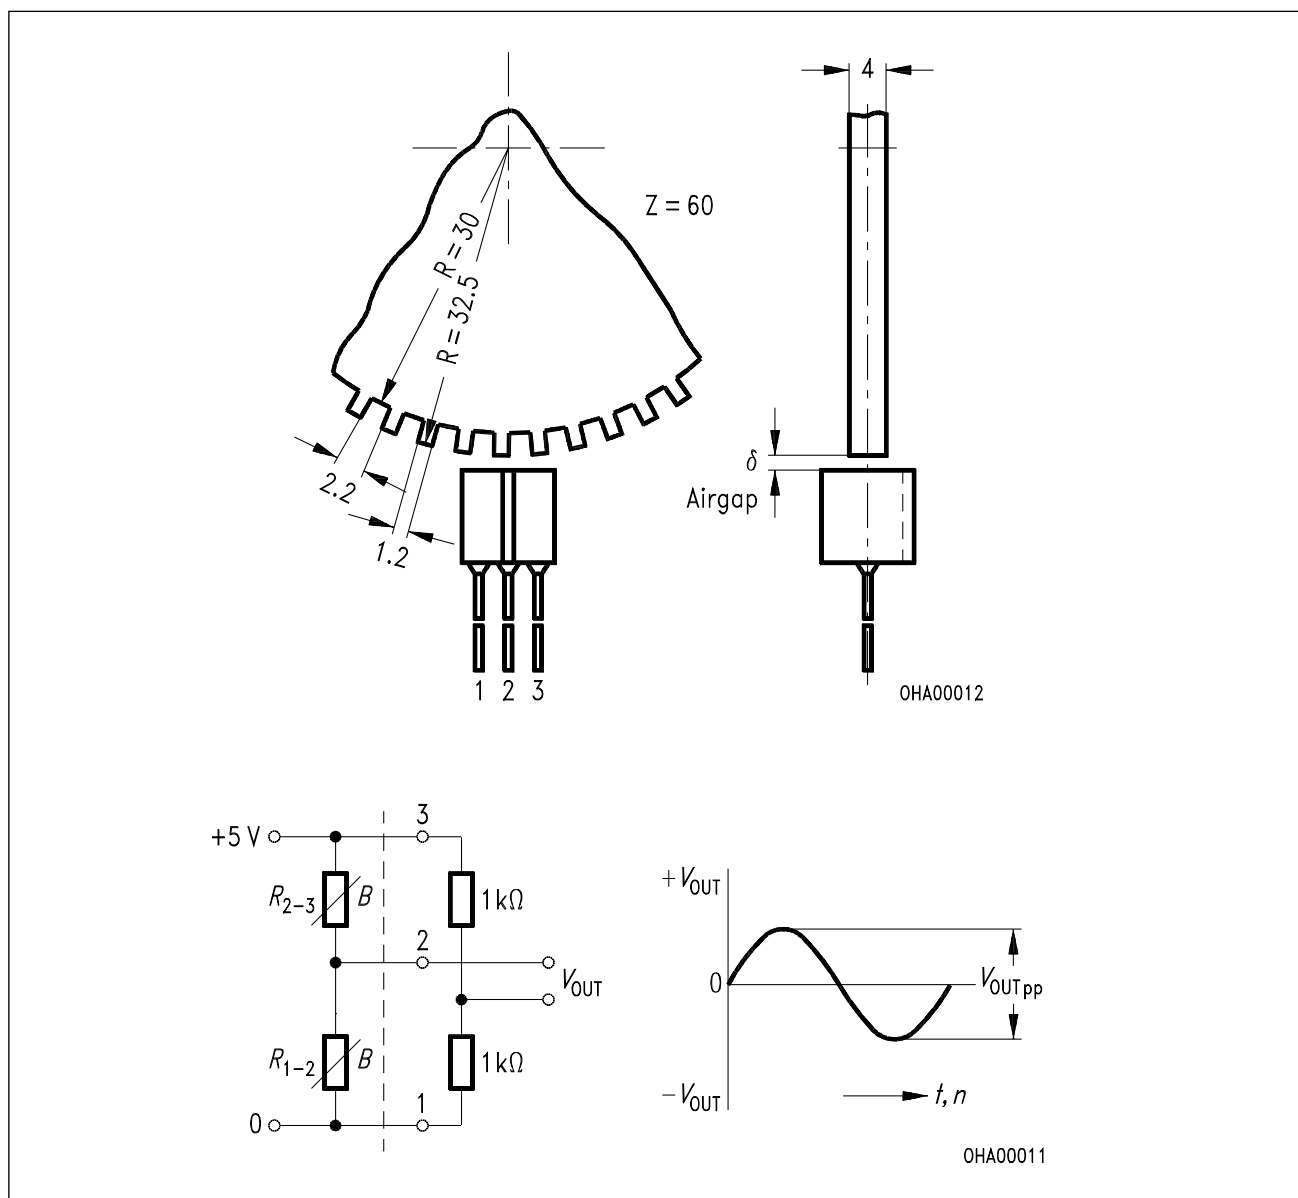

Fig. 1
5) Corresponding to measuring circuit in **Fig. 2** and arrangement as shown in **Fig. 1**
For digital revolution counting, the sensor should be actuated by a magnetically soft iron toothed wheel. The tooth spacing should correspond to about twice the magneto resistor intercenter spacing (see **Fig. 1**).